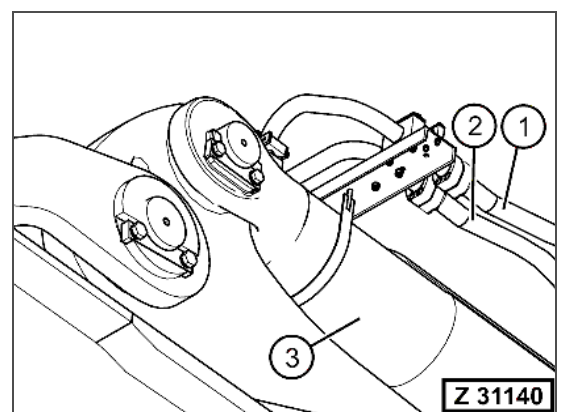

Fig. 5-61
18. Install the hydraulic hoses (Fig. 5-61, Pos. 1 and 2) at the bucket cylinders (Fig. 5-61, Pos. 3).